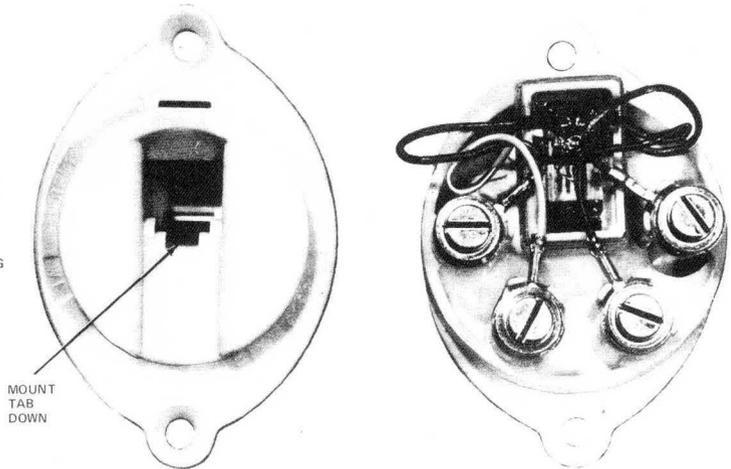

Fig. 3—625F Connecting Block (Without Mounting Hardware)¶
- Block, Connecting, 625F (Fig. 3)
2.05 The **625F** connecting block (Fig. 3) is intended for use in new installations requiring a flush-type connecting block or for modular replacement of 548A jacks or 47F connecting blocks. It does not include faceplate or mounting bracket.